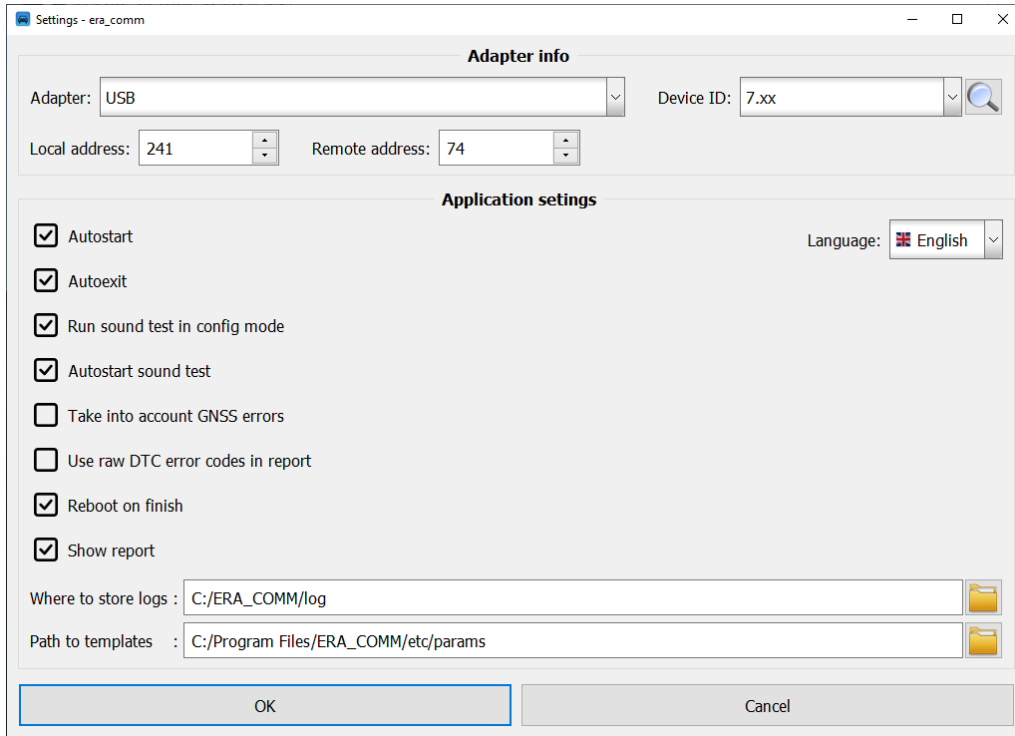
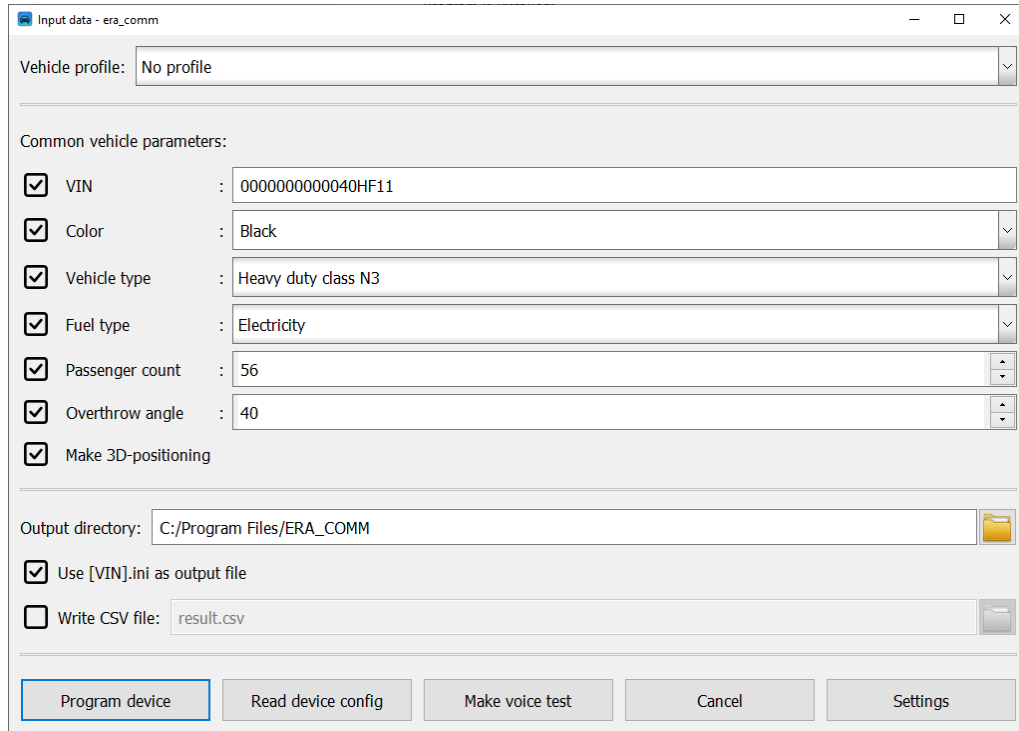

Figure 2 – Program settings window
Figure 5 – Main window of the Program
- open Settings (Figure 2), in the main window (Figure 5);
When selecting any vehicle profile in the program, the possibility to change the common vehicle parameters specified in the main program window (Figure 5) is not available.
After starting the Program, the main window will open (Figure 5).